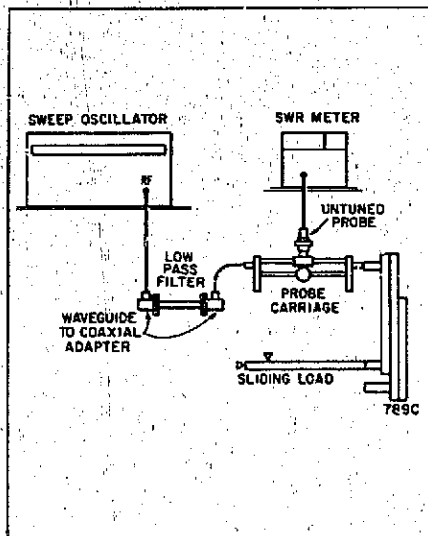

Figure 10. SWR Check
a. Set up equipment as shown in Figure 10.